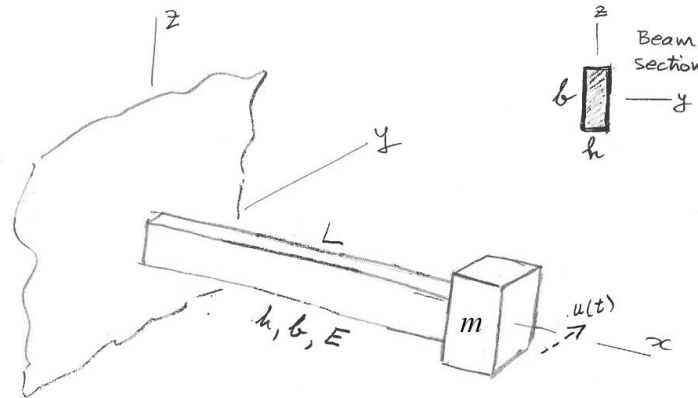

Figure 13: Horizontal flex-beam vibrating system.
Consider a cantilever beam of length L with a mass m attached at its tip as shown in Figure 13. The beam cross-section properties are E , h , b .
- (1) Assume vibration with horizontal time-varying displacement $u(t)$ as shown in Figure 13.
- (2) Calculate the cross-sectional stiffness EI of the beam for flexural deformation consistent with $u(t)$.
- (3) Calculate the flex-beam spring constant k .
- (4) Draw free-body diagram (FBD) including all the forces acting on the mass m .
- (5) Deduce equation of motion (EOM).
- (6) Compare the EOM deduced here with the EOM derived in Problem B.1.
- (7) Solve the initial value problem (IVP) and find the response for simultaneous application of both initial displacement u_0 and initial velocity $\dot{u}_0$.